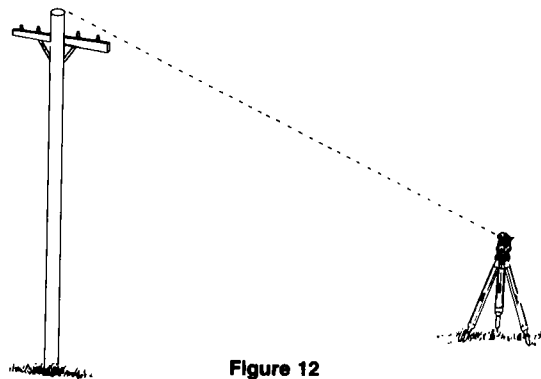

Figure 12
- 3.) Rotate telescope up and sight top of object (see Figure 12).